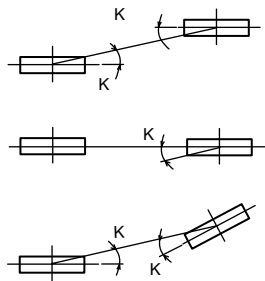

Figure1 Parallel degree of pulley
1. Set the parallel angle of the fan and the motor pulley as shown in the table and figure 1 below.
2. Set the tension of the per one belt when the flexion load is within the range as shown in the figure 1 below at the proper flexion. (A=4.5mm)